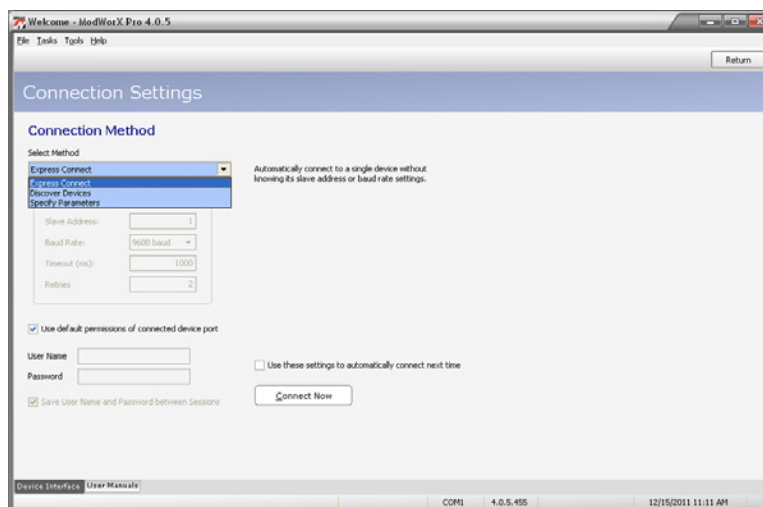

Figure 1.2
2. Click **Connect**. The Connection Settings screen will appear (Figure 1.2, page 9).
- On initial login, the system will automatically connect to the Scanner using default security permissions (full access). The “**Use default permissions of connected device port**” checkbox (shown in Figure 1.2, page 9) will be checked. No user name or password is required for login.